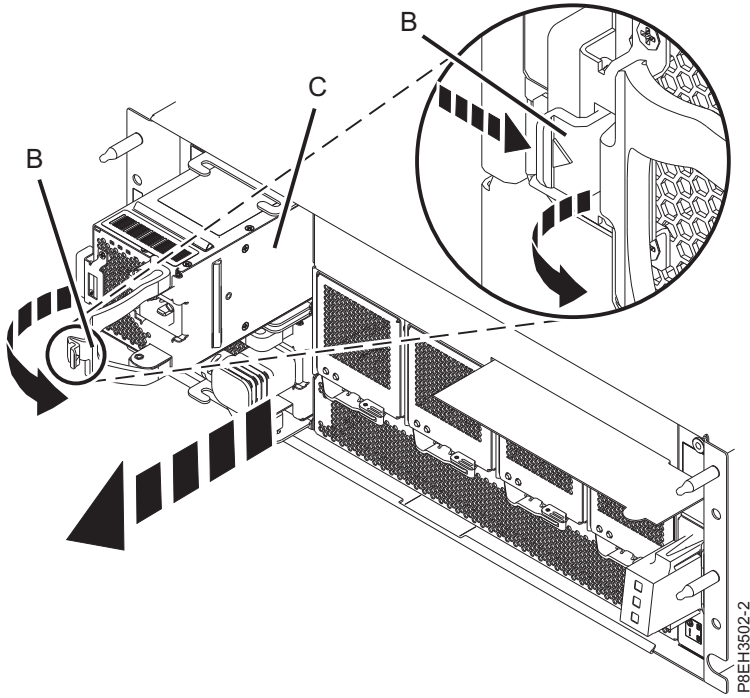

Figure 4. Sliding the power supply out of the EMX0 PCIe3 expansion drawer
3. To unseat the power supply (C), push the release latch on the handle (B) in the direction shown and pull out the handle toward you. See Figure 4 on page 4.